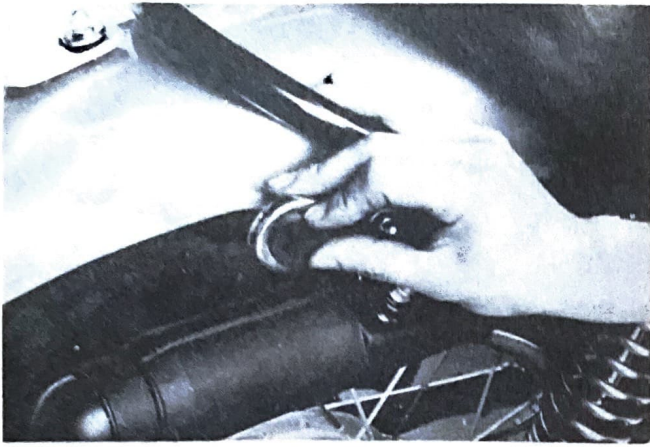

Fig. 32
23. a. Install the flasher lamp damper rubber on the rear flasher lamp stay. (Fig. 32)